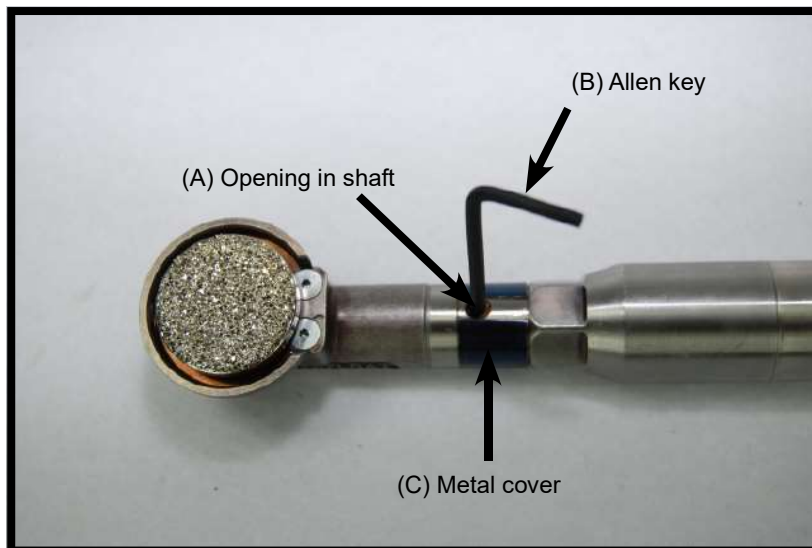

Fig. 5
1. Rotate black/blue metal ring (Fig. 5) (C) to expose the opening in the shaft (A).
2. Insert shaft lock pin, finishing nail or Allen key (Fig. 5) (B), into hole (A) to lock the shaft.
7. Remove shaft lock pin and replace metal cover (Fig. 5) (C).